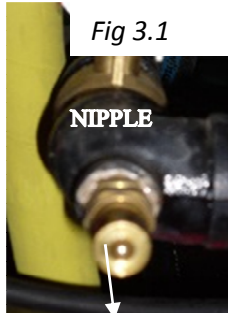

Fig 3.1
3) Spin out the quick-disconnect NIPPLE currently on the machine, by the bottom of the main pump (under control panel). See Fig 3.1.